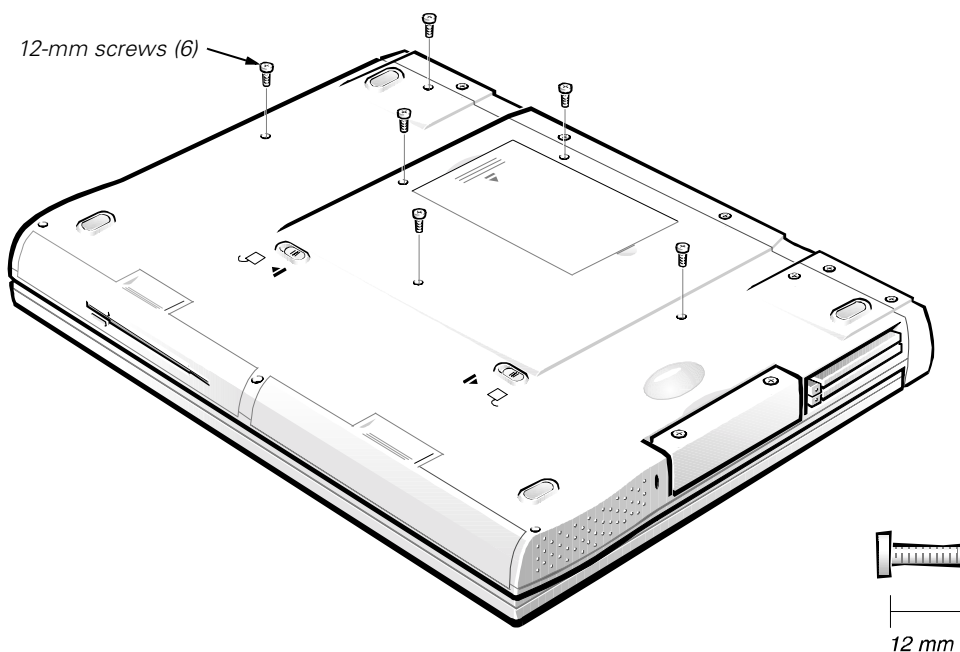

Figure 9. Keyboard Assembly Screw Removal
1. Close the display assembly, and turn the computer upside down on a flat work surface (see Figure 9).